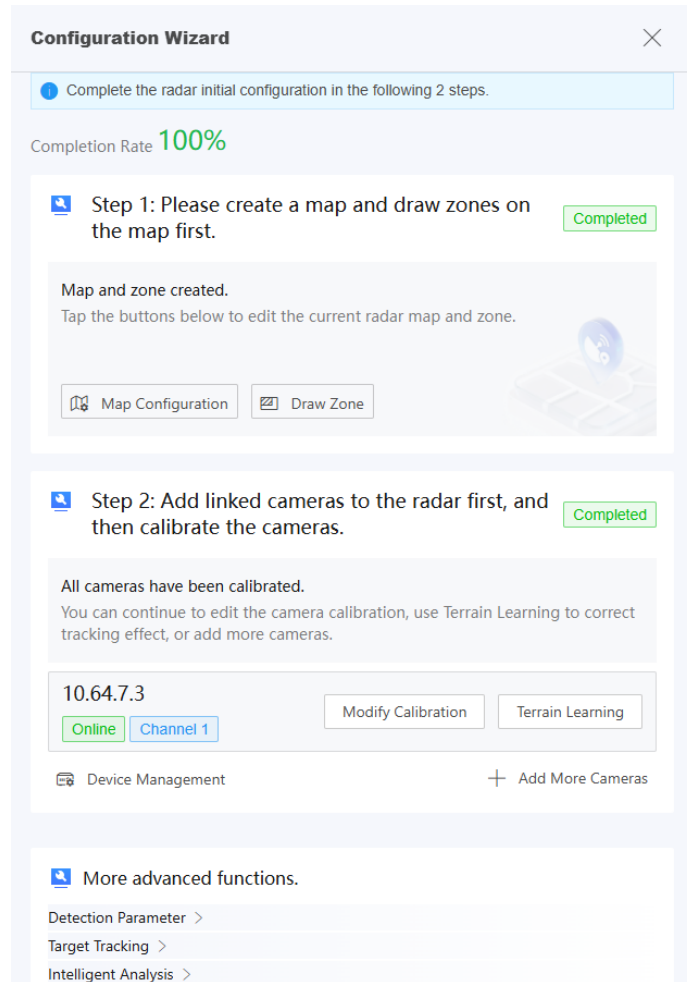

Figure 2-3 Configuration Progress Interface 100%
3. When the two steps are completed, the page will look like Figure 2-3.